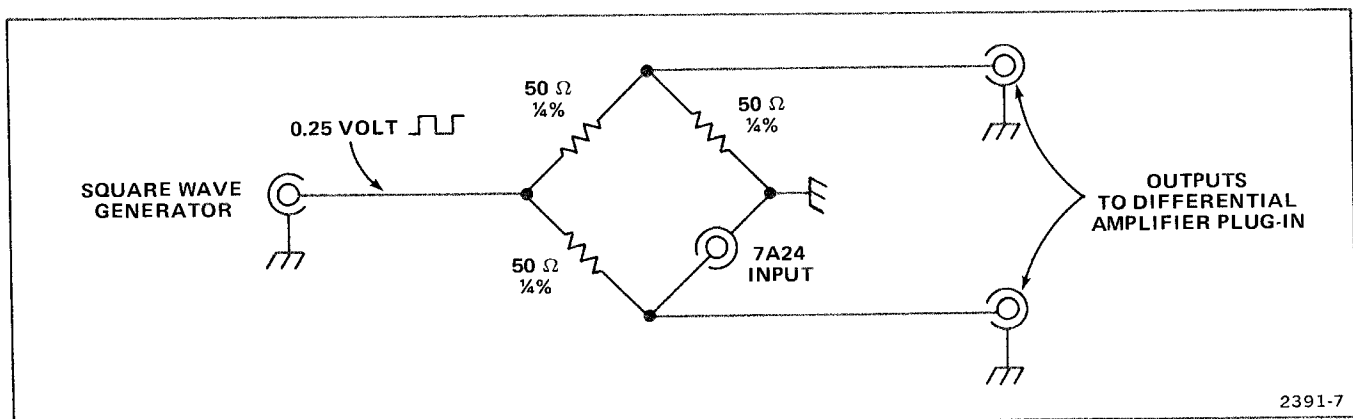

Figure 5-1. Test circuit for Input Resistance Check/Adjust step.
¹Any method of accurately (plus or minus 0.5%) measuring resistance may be substituted for this piece of equipment and the test circuit shown in Figure 5-1.
| 4. Test Circuit (Fig. 5-1) | 9. Cable (50-ohm) |
- Connect the test circuit, as shown in Figure 5-1, to the CH 1 input connector.